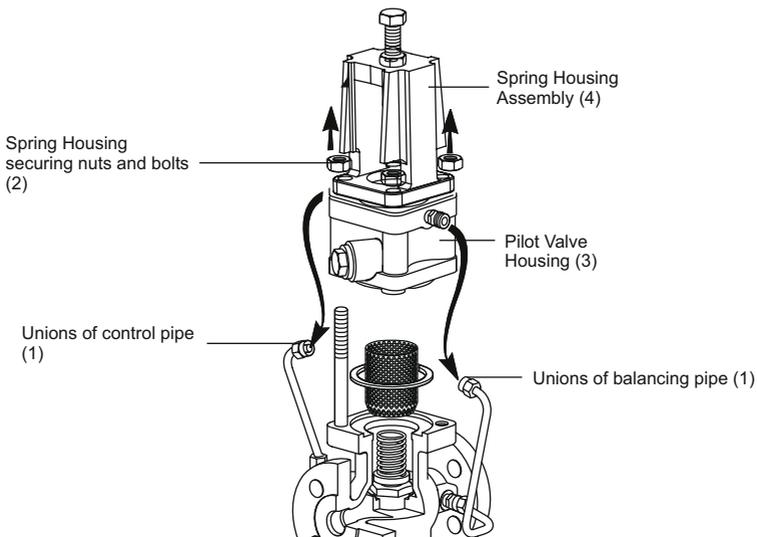

Figure 13 : DSPRV41
5. Replace the diaphragm plate **(5)** and pushrod assembly **(6)** and loosely fit the lower diaphragm chamber **(3)** on two bolts either side of the union connection **(See figure 13(b))** so that the spigot is located in to the recess.
6. Bring the two new diaphragms together and slide into position **(See figure 13(b))**. If the diaphragms are not renewed, but cleaned only, care must be taken to replace the diaphragms in their original order.
7. Push the lower chamber **(3)** and tighten the M12 nuts and bolts **(2)**. Progressively and evenly tighten to a torque of 80 - 100 Nm **(See figure 13(c))**.
8. Retighten the long union nut to ensure a steam tight seal. **(See figure 13©)**.
Where a new part has been fitted it will be necessary to reset the main valve pushrod to give the correct valve lift: (Refer to Figure 13)